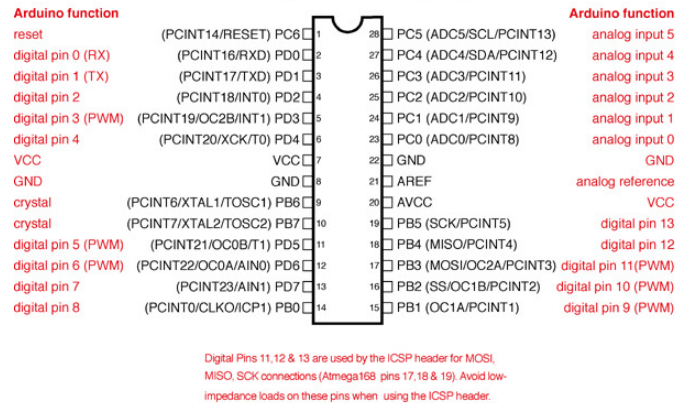

Fig. 7.1
2. Complete Table 7.1 for all the digital pins using Fig. 7.1.